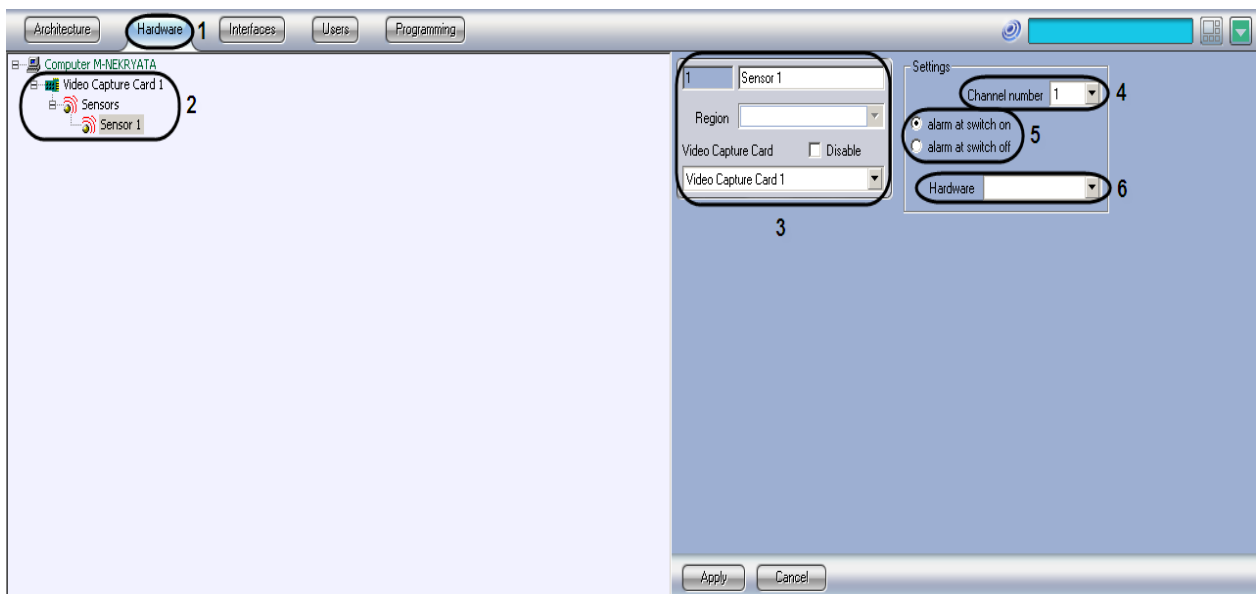

Figure 3.3-2 The setting panel of the Sensor object
1. Go to the **Hardware** tab in the setting panel of INTELLECT™ (Figure 3.3-2, 1).
2. Create the **Sensor** system object under the **Video capture card** object or select the corresponding object in the object tree in the **Hardware** tab of the setting panel of INTELLECT™ (Figure 3.3-2, 2).
3. Specify the ID and name of the **Sensor** object and select the **Video capture card** object to become the parent of the **Sensor** object (Figure 3.3-2, 3).
4. Select the **Channel number** matching the number of DO pin to which the sensor is connected (Figure 3.3-2, 4).
5. In the group of switches select the alarm mode: at switch on or at switch off. By default the **alarm at switch on** mode is selected (Figure 3.3-2, 5).
6. In the **Hardware** dropdown list select the type of executive device used as the detector in the guarded area (Figure 3.3-2, 6).